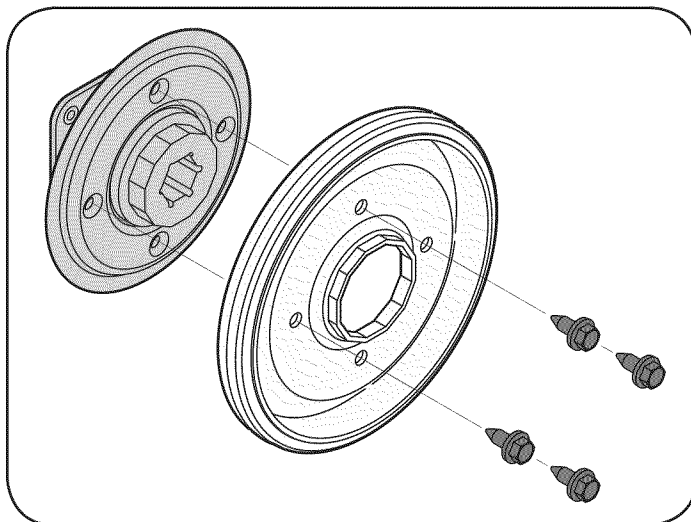

Figure 38
- Remove four screws securing the friction wheel to the hub assembly. See Figure 38. Discard old friction wheel.